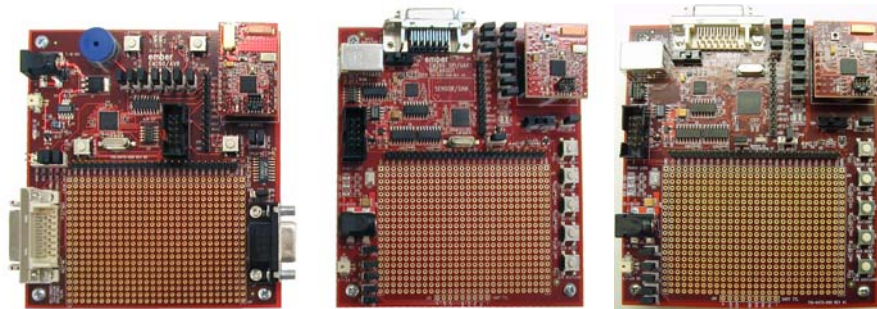

Figure 1. SPI-only (left) vs. SPI/UART 32kB (middle) vs. 128kB (right)
**Warning:** Please clearly identify the EM260 hardware version you are using. The EM260 SPI/UART RCM (130-0461-000) mates with either the EM260 SPI/UART Breakout Board (130-0471-000) or the EM260 SPI/UART 128kB Breakout Board (130-0473-000). The EM260 SPI-only RCM (130-0460-000) mates with the EM260 SPI-only Breakout Board (130-0470-000). These hardware versions are not compatible with each other. See Figure 1 to identify which hardware version you are using—SPI-only is on the left and SPI/UART is on the right. If you are using the SPI-only version, please contact Ember Support if you have any issues with your hardware.
Figure 1 shows the SPI-only Breakout Board on the left and the SPI/UART Breakout Board on the right.